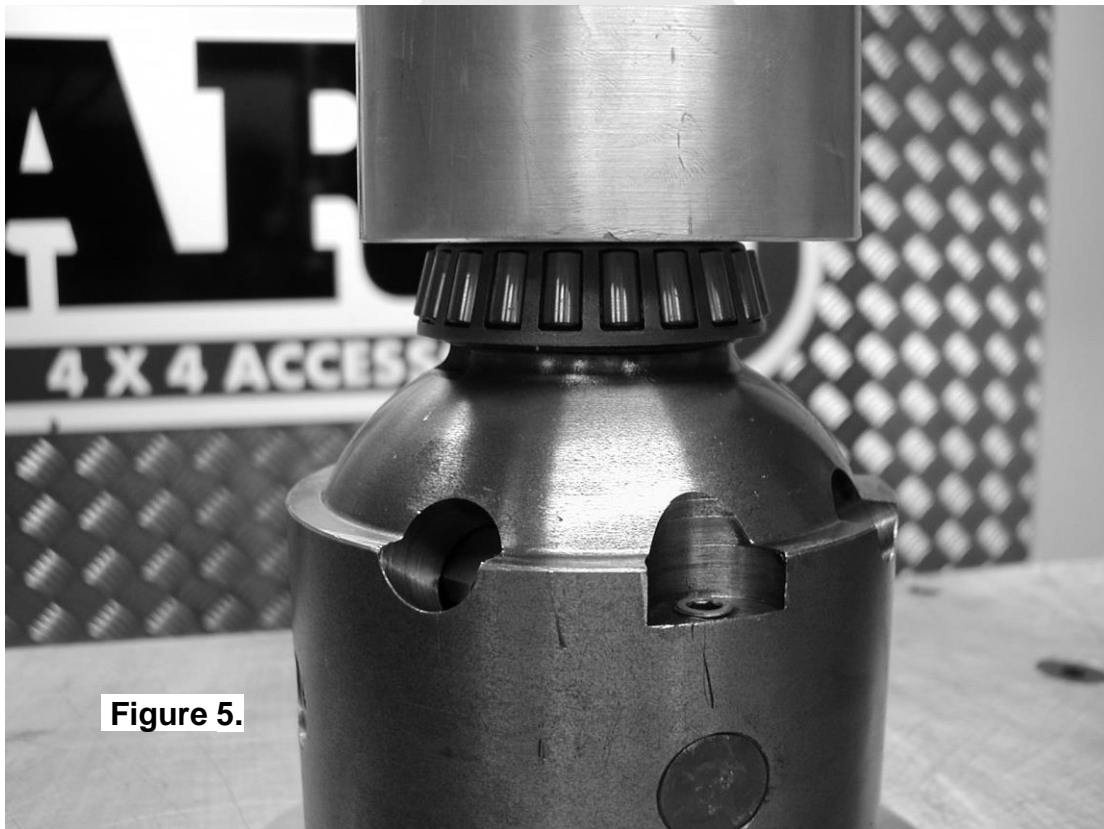

Figure 5.
- Using a bearing press or arbor press, press one of the bearing cones which was removed from the original differential onto the bearing journal (refer to Figure 5.) until the bearing seats firmly against the bearing journal shoulder.